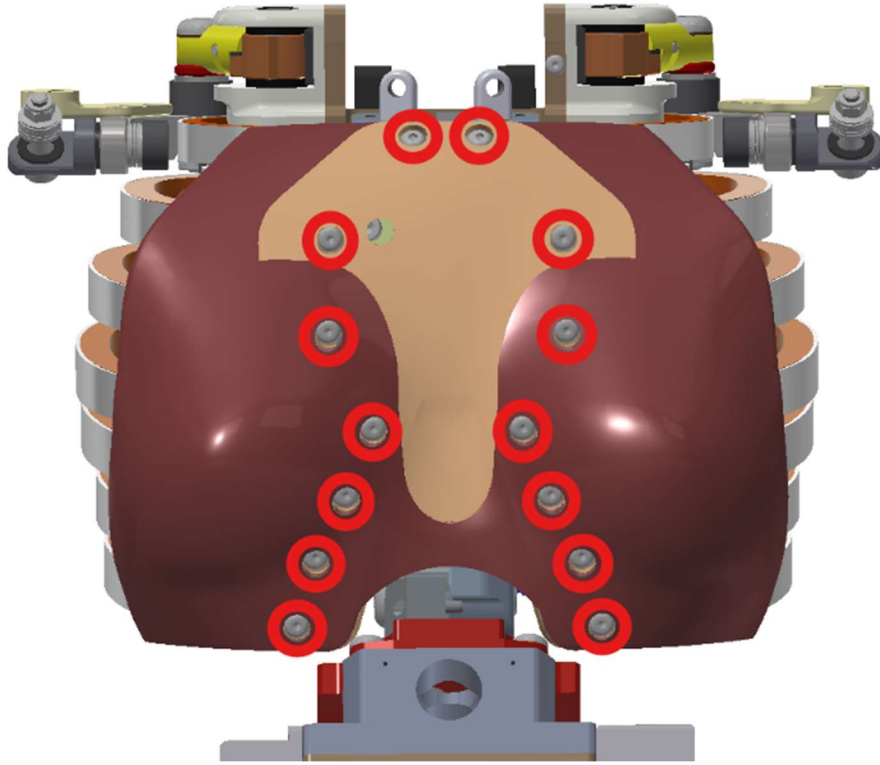

Figure 5-14. Remove the Chest Flesh-Sternum, Molded (474-3730-A)
- 5.2.8 Remove the Chest Flesh-Sternum, Molded (474-3730-A) by removing fourteen M5 X 0.8 X 12 LG. BHCS (Figure 5-14).